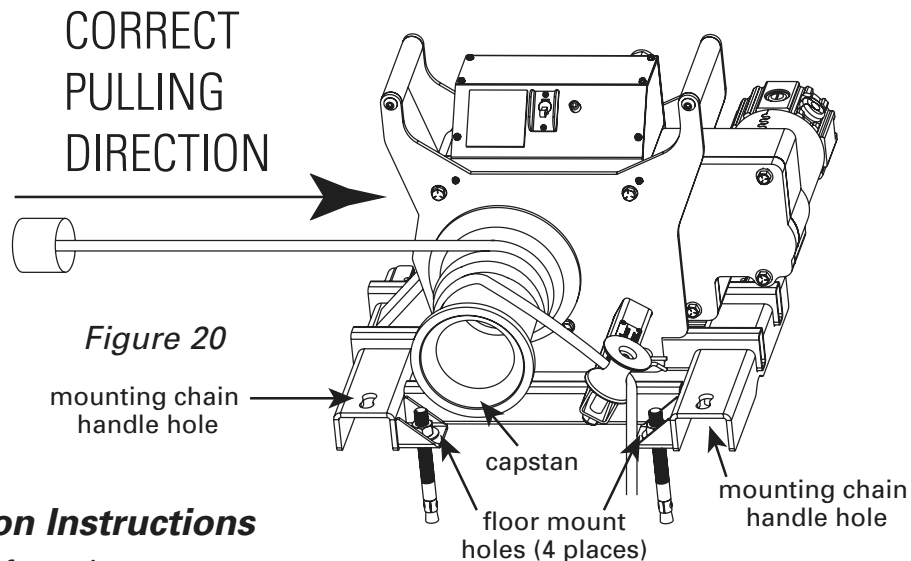
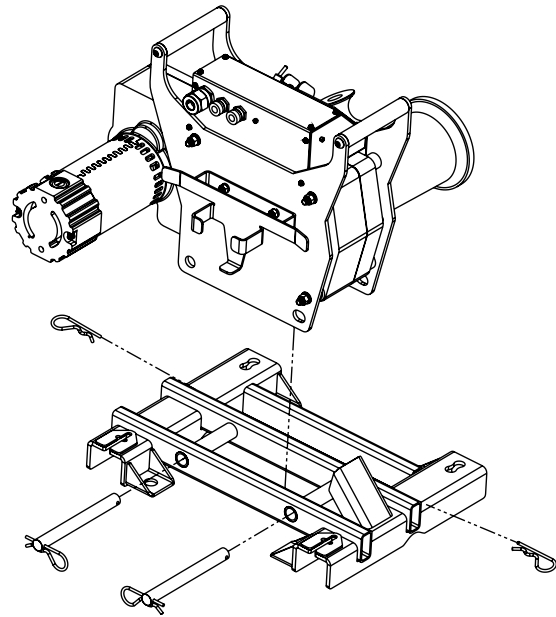
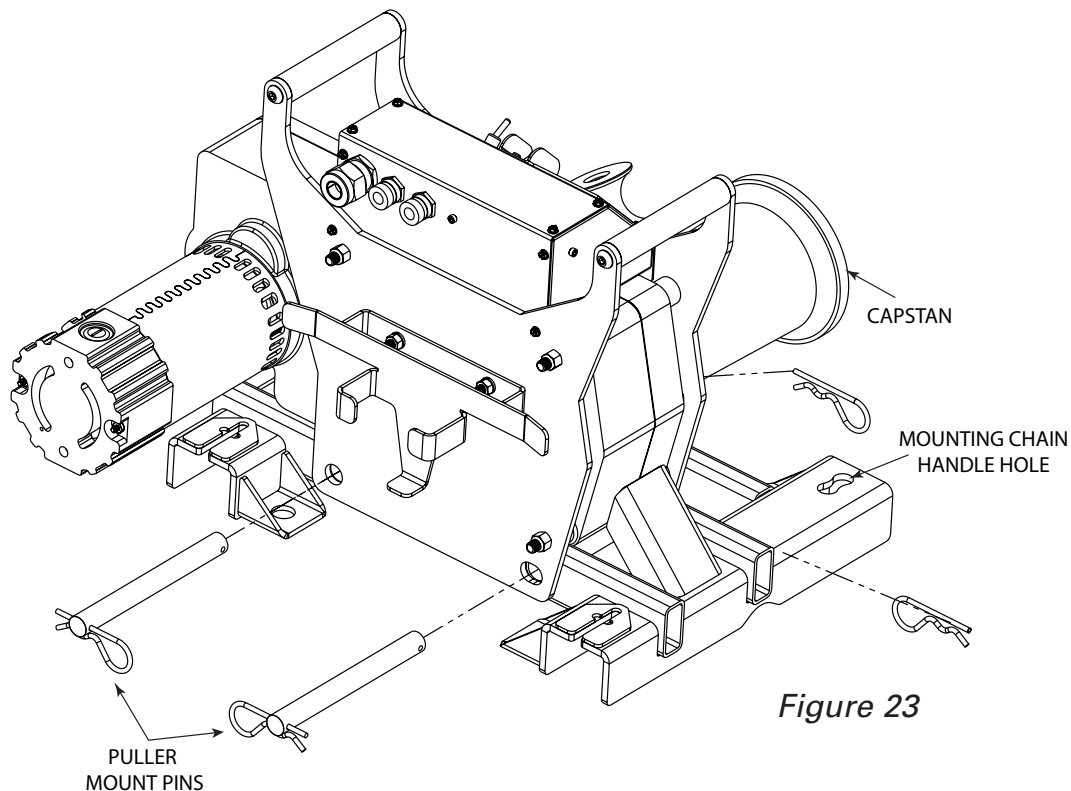

Figure 20
Figure 21b
Figure 23
The pulling direction should **ALWAYS** be parallel to the base of the floor mount. See Figure 20.
7. Next, drive the 4 wedge anchors through the 4 floor mount holes (See Figure 20 and 21a) and into the concrete holes, making sure the nut and washer rests solidly against the floor mount.
9. Install model #1450 puller onto the floor mount by lowering the puller over the floor mount and inserting the puller mount pins (see Figure 21b). Secure the puller mount pins with spring clips. NOTE: The puller **MUST** be mounted onto the floor mount with the capstan on the same side as the mounting chain handle holes (see Figure 20).
NOTE: Install Model #1450 puller onto the chain mount by lowering the puller over the chain mount and inserting the puller mount pins (See Figure 23). Secure the puller mount pins with spring clips. The puller **MUST** be mounted onto the chain mount with the capstan on the same side as the mounting chain handle holes. (See Figure 20).